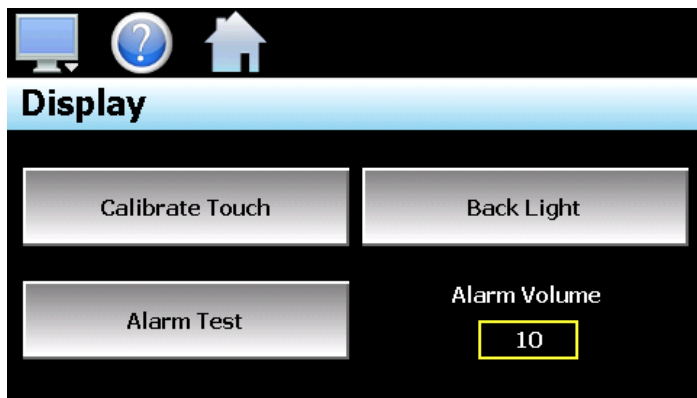

Fig. 111: Display Screen
2. To edit the alarm volume, touch the entry field and enter the desired volume level on the pop-up keypad. To test the buzzer, press ALARM TEST (Fig. 111).
- To adjust the backlight settings, from the DISPLAY screen press the BACK LIGHT button (Fig. 111). An alert message will appear stating that the application will be disabled to enter the backlight settings, press YES to continue.